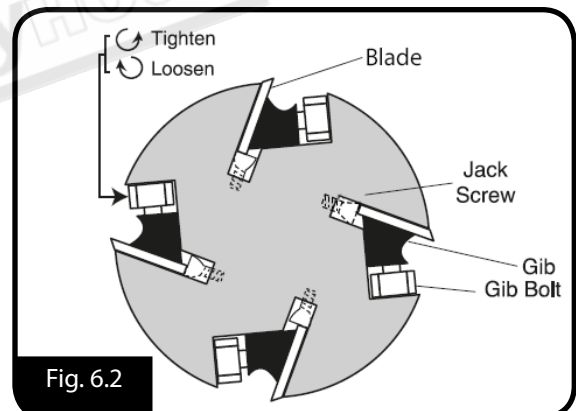

Fig. 6.2
5. Loosen the cutterhead gib bolts until the blade is completely loose. If the blades are to be replaced, remove the old blade and install the new one, making sure the beveled edge of the new knife is facing the correct direction. (Fig.6.2)